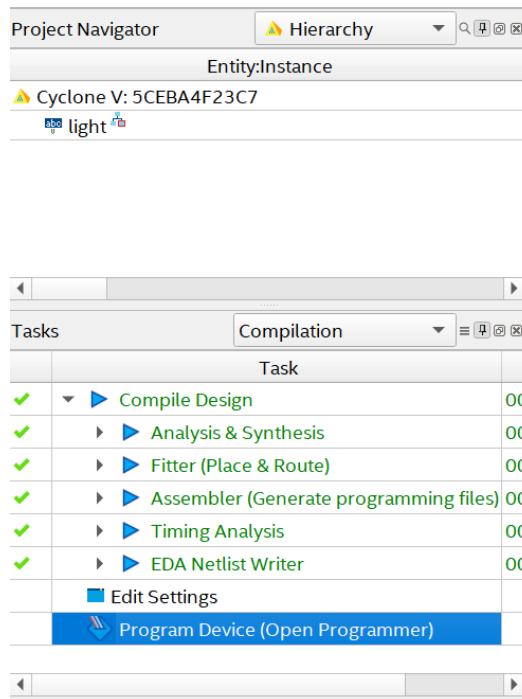

Figure 18. The device programming.
3. Now, you can just type the name of the pin in the Location box. Use the same procedure to assign input x2 to PIN_W9 and output f to pin AA2, which results in the image in Figure 18. To save the assignments made, choose **File > Save**.